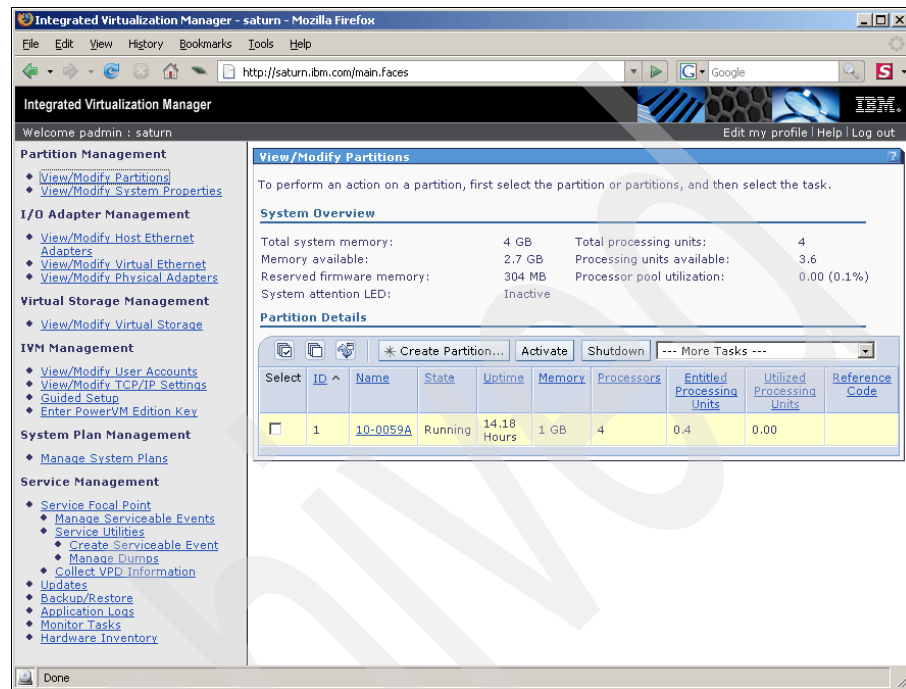

Figure 4-12 View/Modify Partitions page after login
2. Depending on the setup of your IVM, you will be at the Guided Setup or on the View/Modify Partitions page. Figure 4-12 shows the usual page that you see after login when the IVM is fully configured.